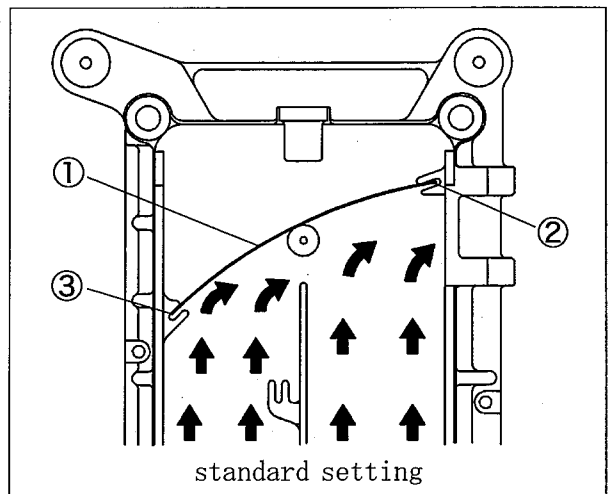
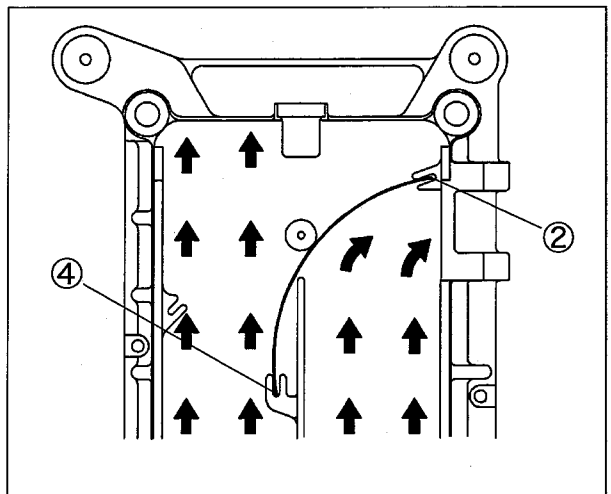

Fig. 70
Fig. 71
To set the standard position, insert the air deflector ① into the guides ② and ③. (See Fig. 70) For high speed and less dust sewing, insert the air deflector ① into the guides ② and ④. (See Fig. 71)